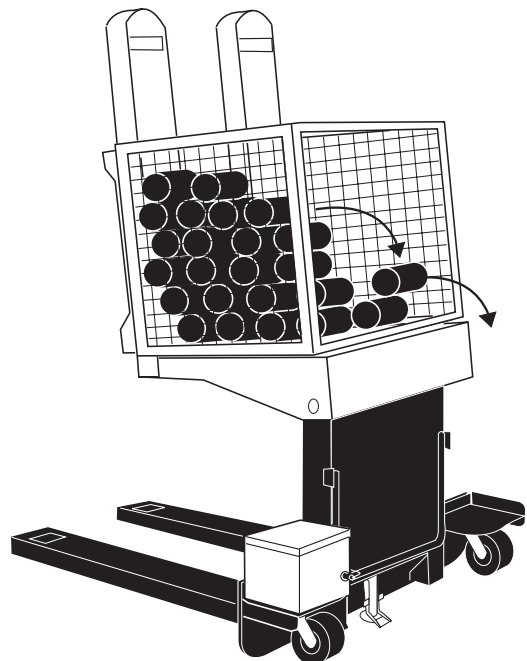

Fig. 6 Don't Over-Fill the Container
4. Sometimes the unit may be used to lift parts which can roll. If possible, stack the parts in the parts container so they cannot roll. Do not over-fill the lifting container. See Fig. 6. If the container is too full, some of the parts may roll out of the front of the container.